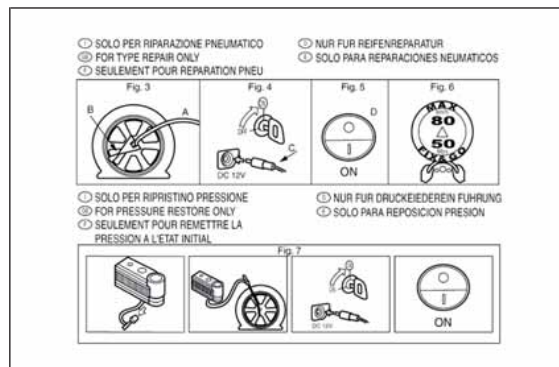

fig. 126
- an information leaflet fig. 126, providing instructions for using the kit correctly. This booklet should be given to the persons charged with handling the tyre treated with this kit;